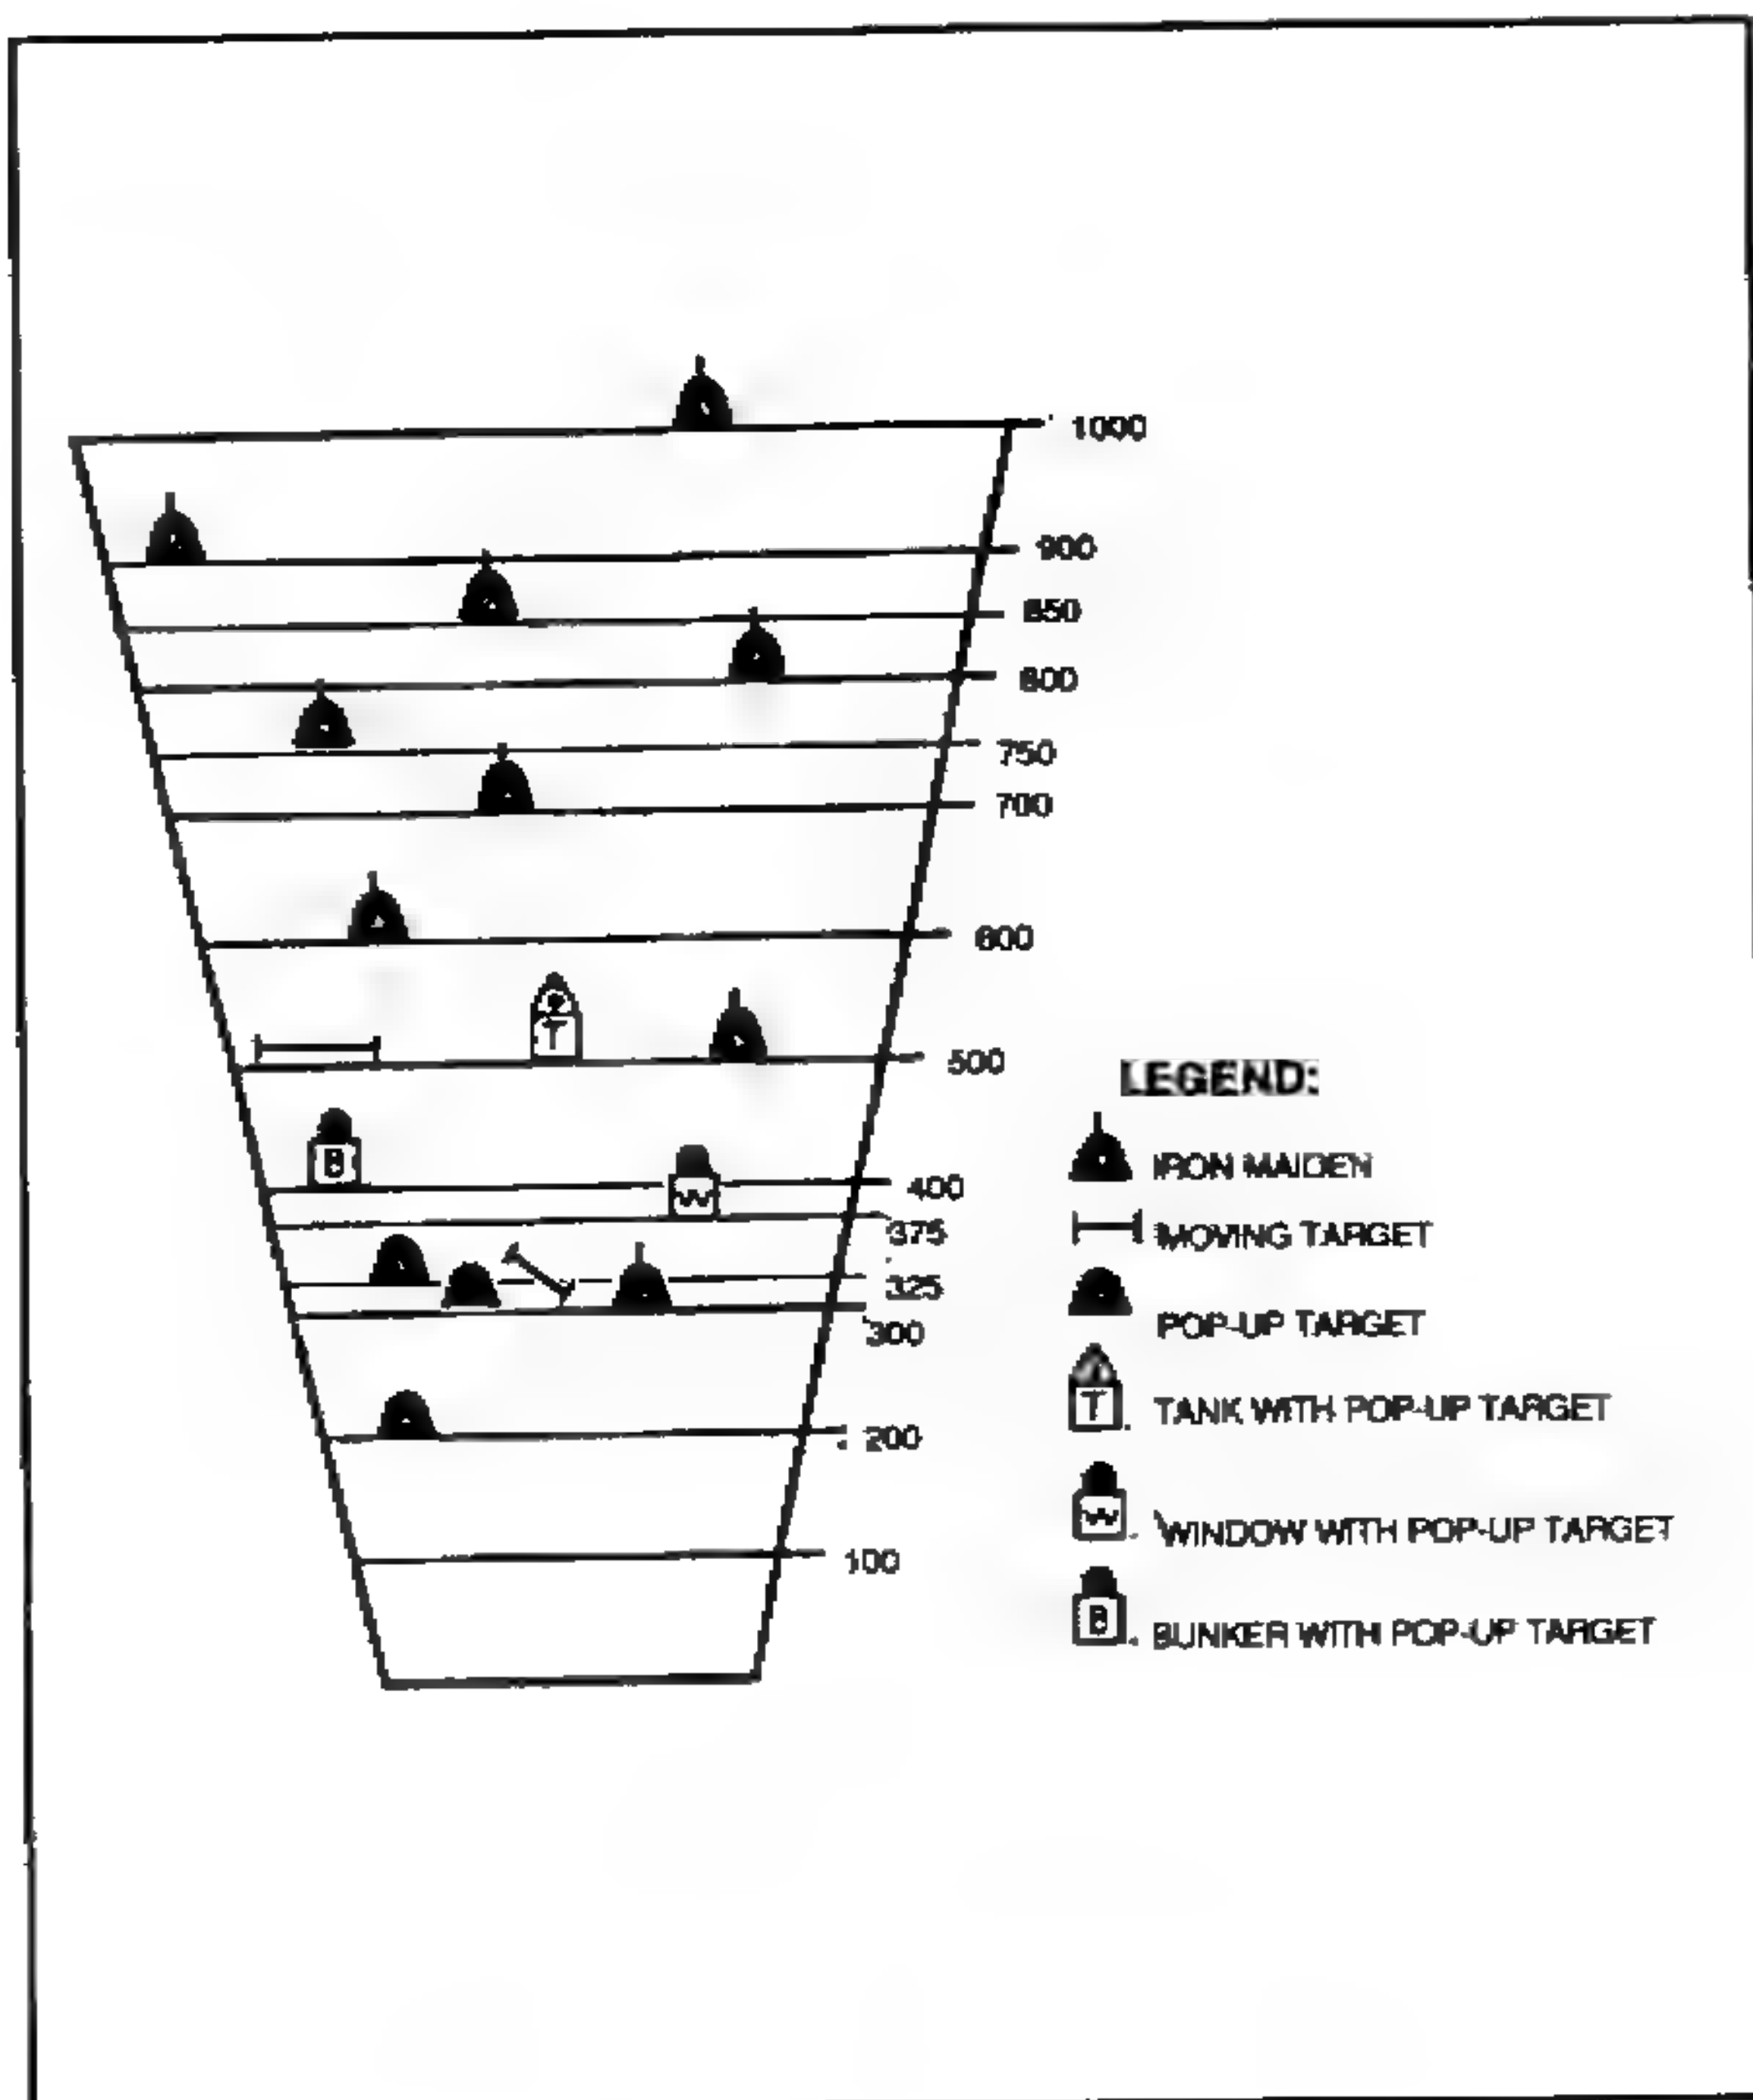

Figure 9-9. Lane layout.
(4) Moving targets can be used at distances between 300 and 500 meters to give the sniper practical experience and to develop skill in engaging a moving target. Two targets, one moving laterally and one moving at an oblique, present a challenge to the sniper.
(5) Targets should be arranged to provide varying degrees of concealment to show enemy personnel or situations in logical locations (Figure 9-9, page 9-24). The grouping of two or more targets to indicate a crew-served weapon situation or a small unit is acceptable. Such arrangements, provided the targets can be marked, may require selective engagement by the sniper. The automatic target devices provide for efficient range operation and scoring.